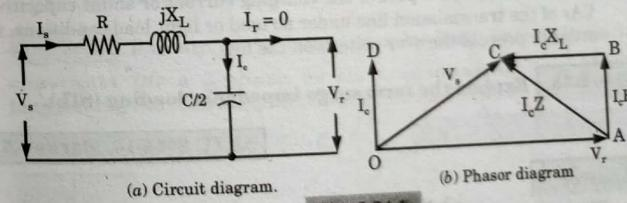

Fig. 2.34.1.
- In order to determine the magnitude of voltage rise, one-half of the total line capacitance will be assumed to be concentrated at the receiving-end as shown in Fig. 2.34.1(a). The phasor diagram is shown in Fig. 2.34.1(b).